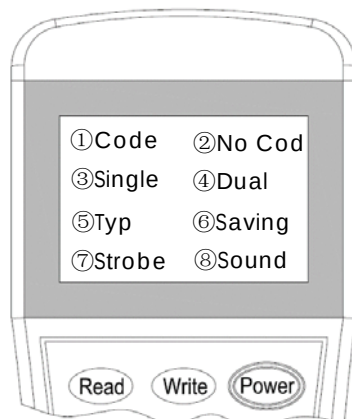

Fig.7 Parameter setting
2. Switch-on the programmer, then press button **"3"** to set encoding mode. Select the desired encoding method and then click the button **"Write"** to save the configuration information, as shown in Figure 7.